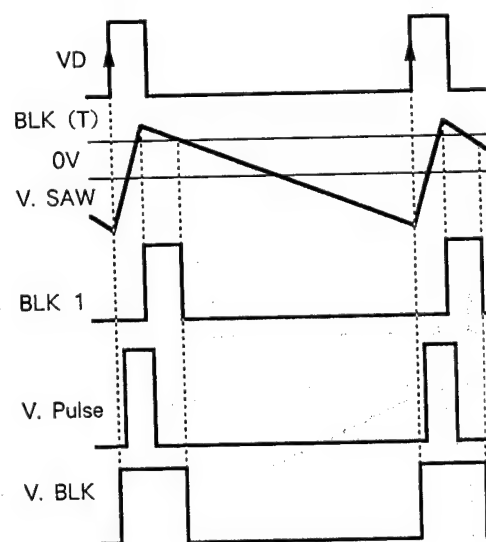

Fig. 5
- 1) V. BLK...The position of BLK has been fixed so that even if the size is altered, the on-screen position of BLK will not change. By performing slice and comparing operations on a certain level of V. SAW, a pulse such as BLK 1 that is shown in Fig. 5 is created (IC220). If the bias of BLK (T) in Fig. 5 is changed, the width of BLK 1 alters. V. BLK is structured by adding a retrace line, as well as VD and V. Pulse so that BLK is effected during a V. STOP.